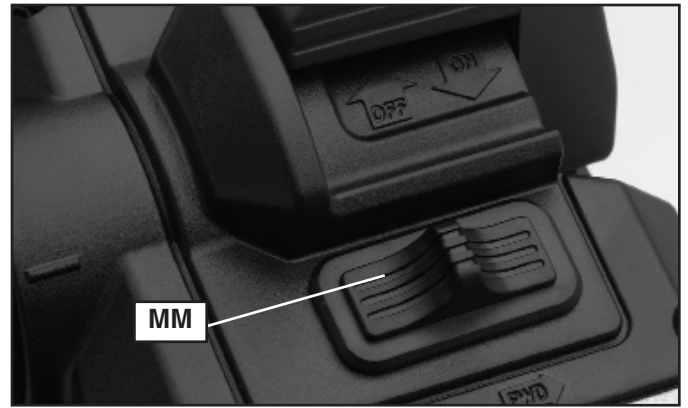

Fig. 28
2. Slide switch (MM) Fig. 28 to “FWD” (forward) or “REV” (reverse) position, depending on your desired rotation.